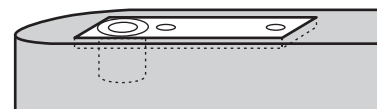

Figure 4
2. Install door portion of top pivot in door using two (2) 1/4-20 x 5/8" FHMS or #14 x 1-1/2" FHWS. (Figure 4) Refer to template PS30625.